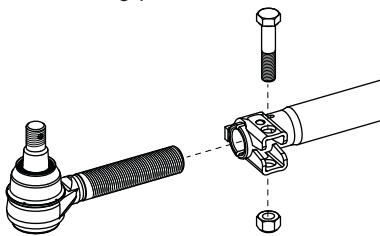

Figure 13: Tie rod end disassembly
3. **Loosen** tie rod end locking clamp (Figure 13). It should not be necessary to remove tie rod end clamp hardware.
NOTE: Tie rod end clamps should have been tightened during the toe adjust procedure. Tie rod end clamps must be oriented (Figure 13) to avoid interference with moving parts and not catch or pickup debris while the trailer is moving.